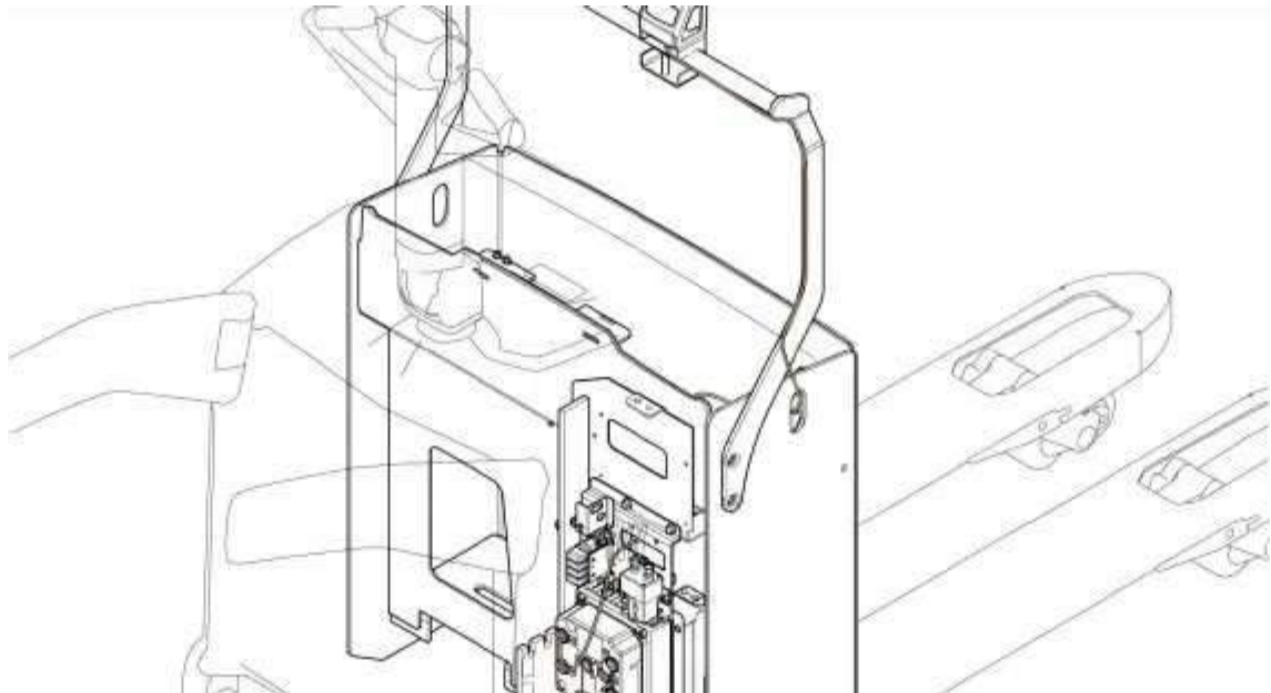

Figure 91. Working lights wiring overview
5. Tie the working light wires to the accessory rack and draw them via the hoist point hole into the battery compartment. See Figure 91 below.
6. Draw the working light wires following the battery cables through the holes in the battery compartment into the tractor compartment. See Figure 91 below.